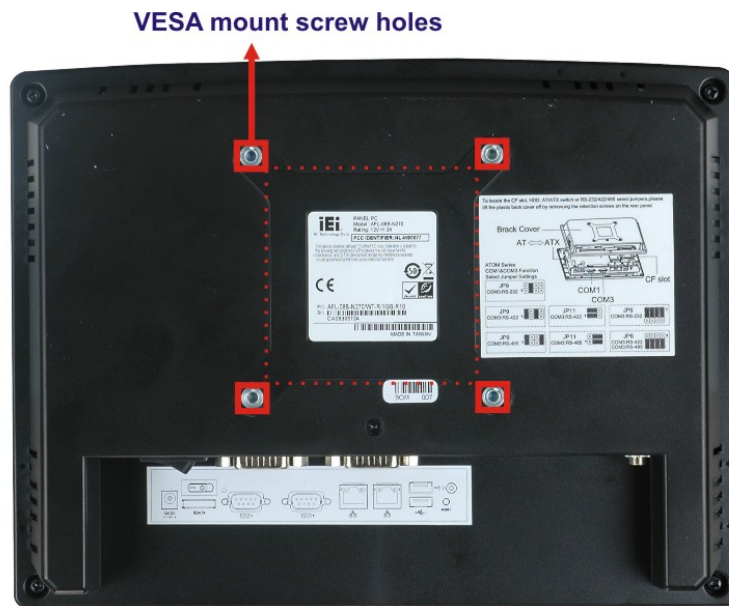

Figure 2-18:AFL-08B-N270 Arm Mounting Retention Screw Holes
Step 3: Align the retention screw holes on the mounting arm interface with those in the panel PC. The arm mount retention screw holes are shown in **Figure 2-18**.